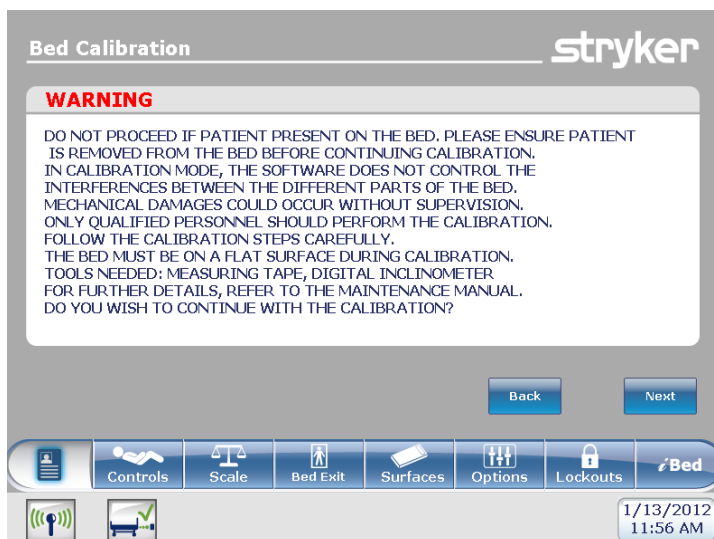

Figure 4: Bed Calibration - WARNING
4. After pressing the Bed Calibration button, Figure 4 will be displayed. Press “NEXT” to continue with calibration.